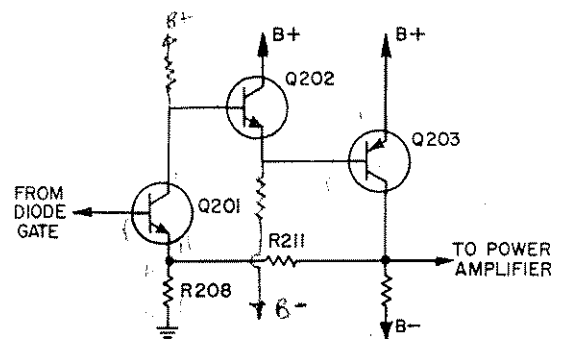

Figure 4-4. Preamplifier circuit.
**4.3.3 PREAMPLIFIER.** See Figure 4-4. The preamplifier consists of three transistors in a feedback circuit and provides a relatively high input impedance, with sufficient power to drive the output stage.